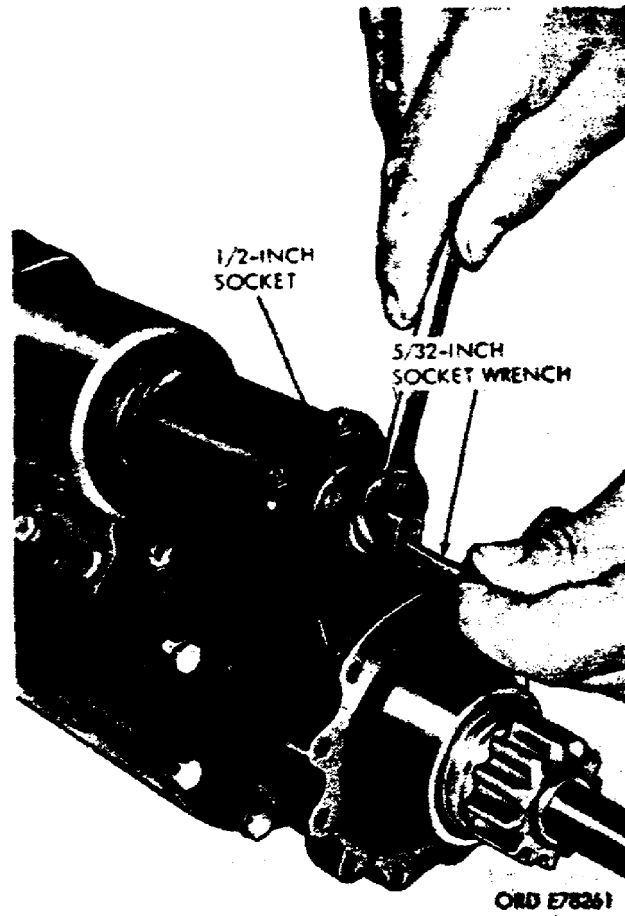

Figure 10. Removing or installing self-locking nut from solenoid relay shaft.
(1) There is a self-locking nut on the solenoid shaft. It is removed with a 1/2-inch socket, hollow shaft driver, and a 5/32-inch Allen wrench.
(2) Slide the socket over the nut and the hollow shaft into the socket; then insert the Allen wrench into the solenoid shaft (fig 10). To remove the nut, the socket is turned with an open end wrench while the Allen wrench is held stationary.